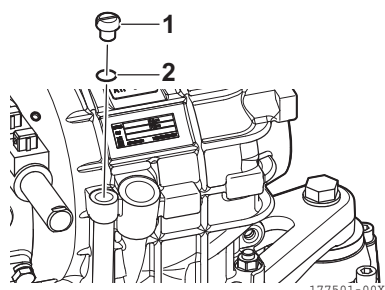

Figure 25
16. Install the plug (1, **Figure 25**) with the new O-ring (2, **Figure 25**). Tighten the plug (1, **Figure 25**) to the torque of 10 Nm using the suitable torque wrench.